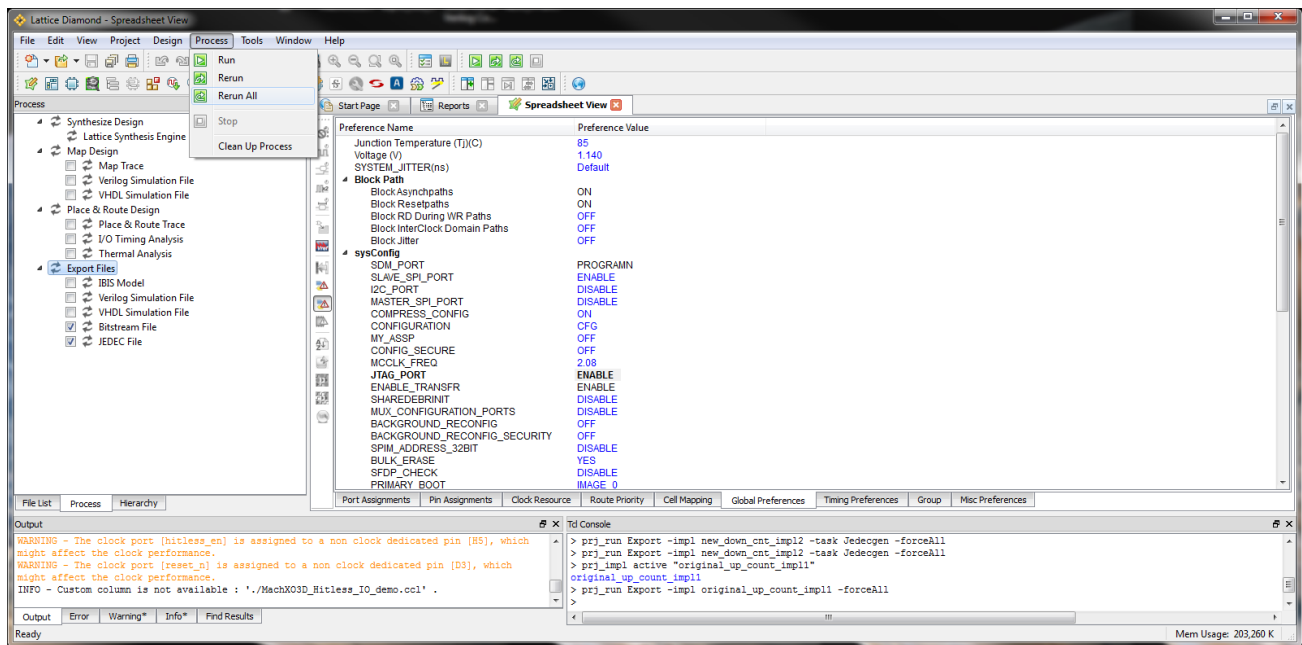

Figure 7.5. Generating the Bitstream
- After these preferences are set up, check the checkbox before **Bitstream File** and **JEDEC File** in Process View (Figure 7.5).